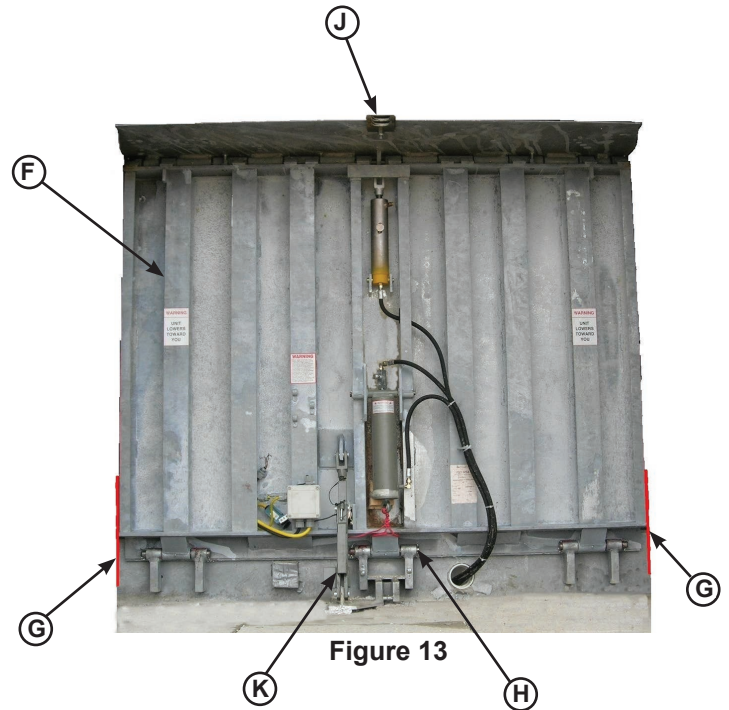

Figure 13
5. Lube the three rear hinge pins (H) using grease, then install the three pins in the rear embed only halfway through the first hinge tube.
- Insert the hinge pins. Work across the dock leveler, installing one side, then the center, and finally the other side. See **Figure 13.**